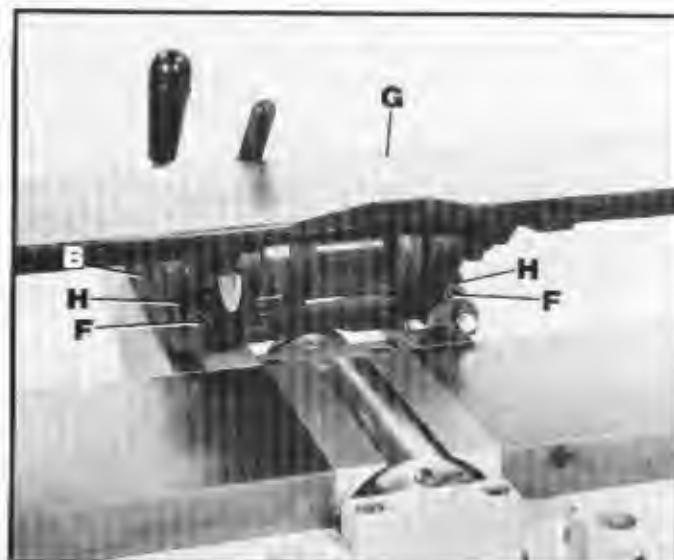

Fig. 7
3. Assemble the fence (G) Fig. 7, with the pivoting brackets (H) to the sliding bracket (B) using the two 1-3/16" long socket head cap screws (F) which were removed in STEP 2.